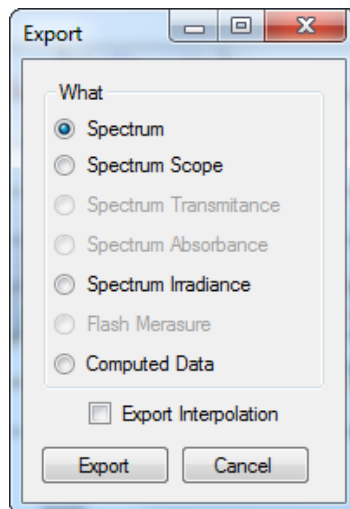

Fig. 34 Export options.
- Spectrum** (Fig. 34) – all raw scope data for entire range of measured wavelengths are exported including data for the dark scan.